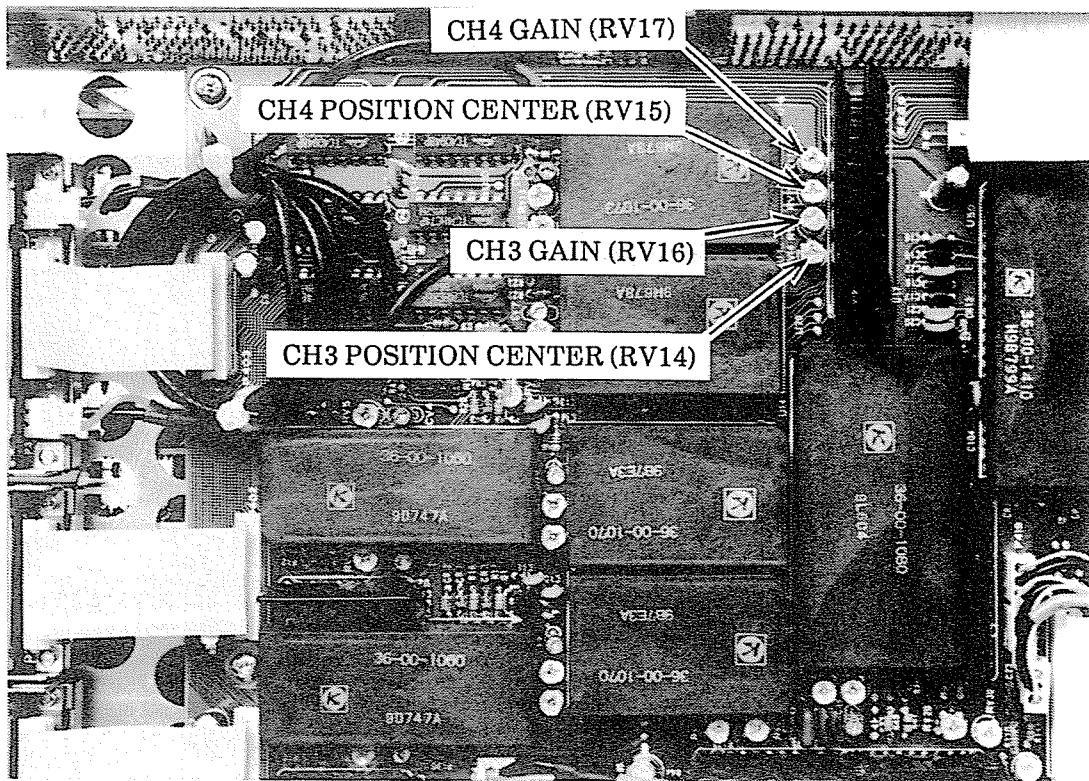

Fig. 4-19 Adjustment positions of CH3 and CH4 POSITION CENTER (RV14 and RV15)
- (3) Confirm that when the dot on the CH3 POSITION knob is set to the 12 O'clock position, the CH3 trace is at the center of the CRT screen. If it is not, adjust CH3 POSITION CENTER (RV14) on board A4 shown in Fig. 4-19.
- (3) Confirm that when the dot on the CH4 POSITION knob is set to the 12 O'clock position, the CH4 trace is at the center of the CRT screen. If it is not, adjust CH4 POSITION CENTER (RV15) on board A4 shown in Fig. 4-19.
- (1) Perform initial setting in accordance with Table 4-3.
- (2) Select “VERT MODE” switch to have only CH3 display.
- (3) Set the input coupling of CH3 to “DC”, and the input deflection factor to 0.1V (“GND” OFF).
- (4) Set “TIME / DIV” to 1 ms / DIV.
- (5) Connect the amplitude calibration signal output of the vertical axis calibrator which has been set to 0.5Vp-p, to the input of CH3 (unterminated), and confirm that the amplitude in the vertical direction is within 5 DIV $\pm$ 0.1 DIV. If it is not, adjust CH3 GAIN (RV16) on board A4 shown in Fig. 4-19.
- (2) Select “VERT MODE” switch to have only CH4 display.
- (3) Set the input coupling of CH4 to “DC”, and the input deflection factor to 0.1V. (“GND” OFF).
- (4) Set “TIME / DIV” to 1ms / DIV.
- (5) Connect the amplitude calibration signal output of the vertical axis calibrator which has been set to 0.5Vp-p, to the input of CH4 (unterminated), and confirm that the amplitude in the vertical direction is within 5 DIV $\pm$ 0.1 DIV. If it is not, adjust CH4 GAIN (RV17) on board A4 shown in Fig. 4-19.